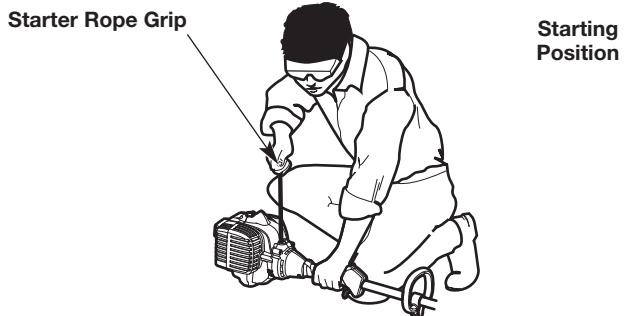

Fig. 9
WARNING: Avoid accidentally starting the unit. To avoid serious injury, the operator and the unit must be in a stable position when pulling the starter rope (Fig. 9).
5. **DO NOT** squeeze the throttle control. Crouch in the starting position (Fig. 9).
6. **DO NOT** squeeze the throttle control. Pull the starter rope with a controlled and steady motion until the unit starts (Fig. 9).